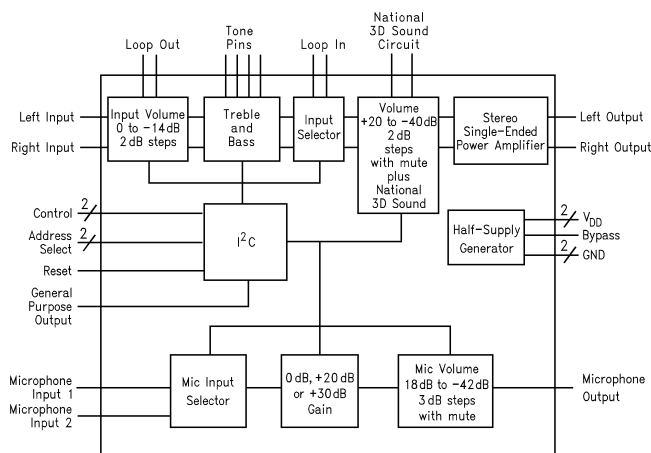

Figure 1. LM4832 Block Diagram
- (1) All voltages are measured with respect to the ground pins, unless otherwise specified. All specifications are tested using the typical applications shown in Figure 1.
- (2) Typicals are measured at  $25^{\circ}\text{C}$  and represent the parametric norm.
- (3) Limits are ensured AOQL (Average Outgoing Quality Level).
- (4) Data sheet min and max specification limits by design, test, or statistical analysis.